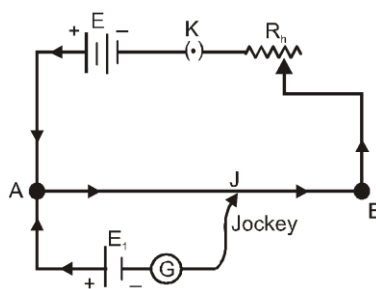

fig. 1
1. Draw a diagram showing the scheme of connections as in fig. 1
3. Connect the positive pole of the auxiliary battery (a battery of constant e.m.f) to the zero end (A) of the potentiometer and the negative pole through a one-way-key, an ammeter and a low resistance rheostat to the other end of the potentiometer. Connect the positive pole of the cells E_1 and E_2 to the terminal at the zero end (A) and the negative poles to terminal a and b of the two way key connect the common terminal c of the two way key through a galvanometer (G) and a resistance box (R.B) to the jockey.
4. To test the connections : - Introduce the plug in position in the one-way-key (K) in auxiliary circuit and also in between the terminal a and c of the two-way-key. Take out a 2,000 ohms plug from the resistance box (R.B). Press the jockey at the zero end and note the direction of deflection in the galvanometer. Press the jockey at the other end of the potentiometer wire; if the direction of deflection is opposite to that in the first case, the connections are correct. If the direction of deflection is in the same direction then increase the current in the auxiliary circuit with a rheostat till the deflection obtained in the galvanometer is in the opposite direction when the jockey is pressed at the other end.